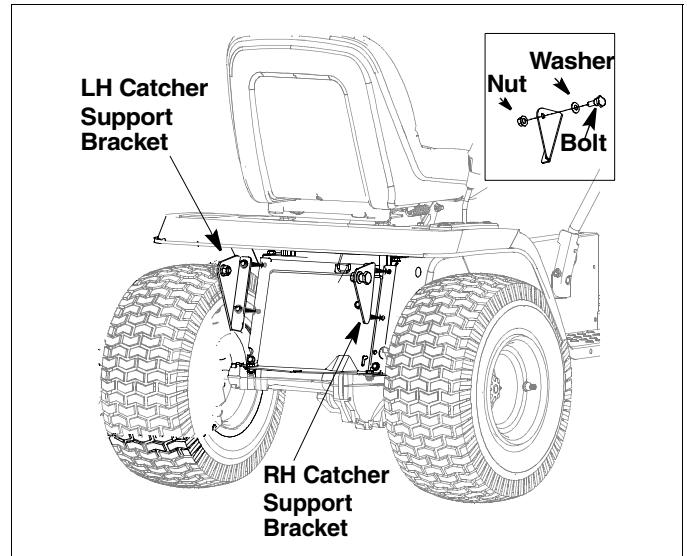

Figure 3
- Place the RH Catcher Support Bracket (Ref. No. 5) in position as shown in Figure 3.
- From the outside of the Catcher Support Bracket insert the Shoulder Screw/Bell Washer subassembly through the hole. Secure with a Flange Lock Nut (Ref. No. 9). See Figure 3 inset for details. Repeat on other side.